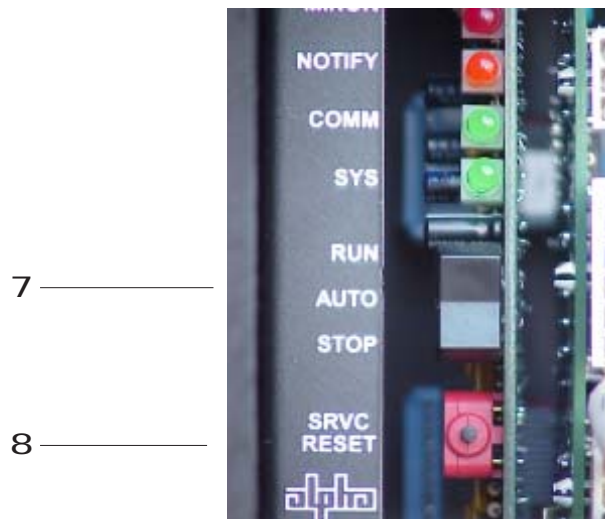

Fig. 2-2 Run-Auto-Stop (RAS) switch, Service/Reset push-button switch.
*Refer to Figure 2-2 on the following page:*